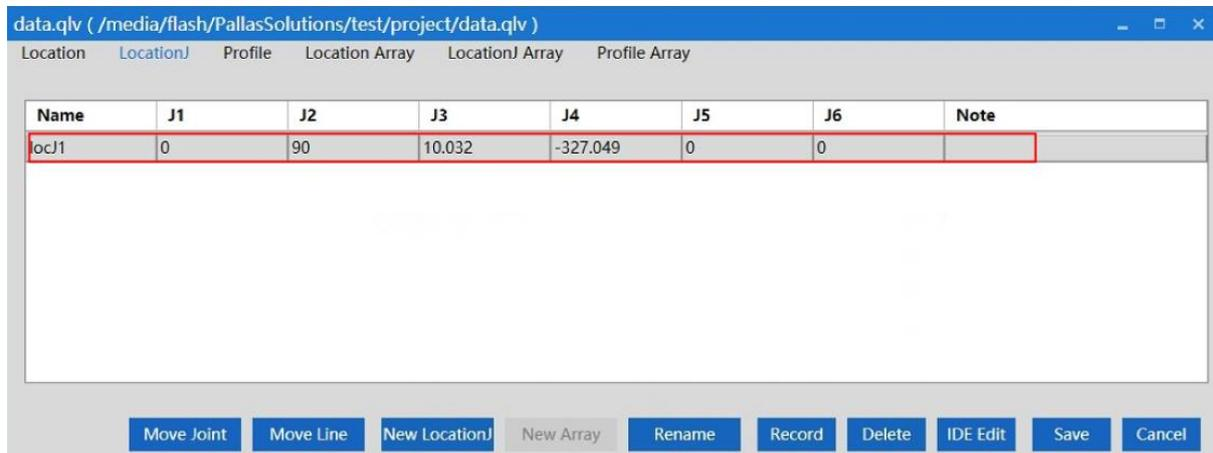

Figure 6-34 New LocationJ
**Step 2** New LocationJ; Click "New Location" in "LocationJ", and the point information of the current robot's axis coordinate position will appear in the interface. The point name is the default name, and you can click Rename to modify it, as shown in Figure 6-34.